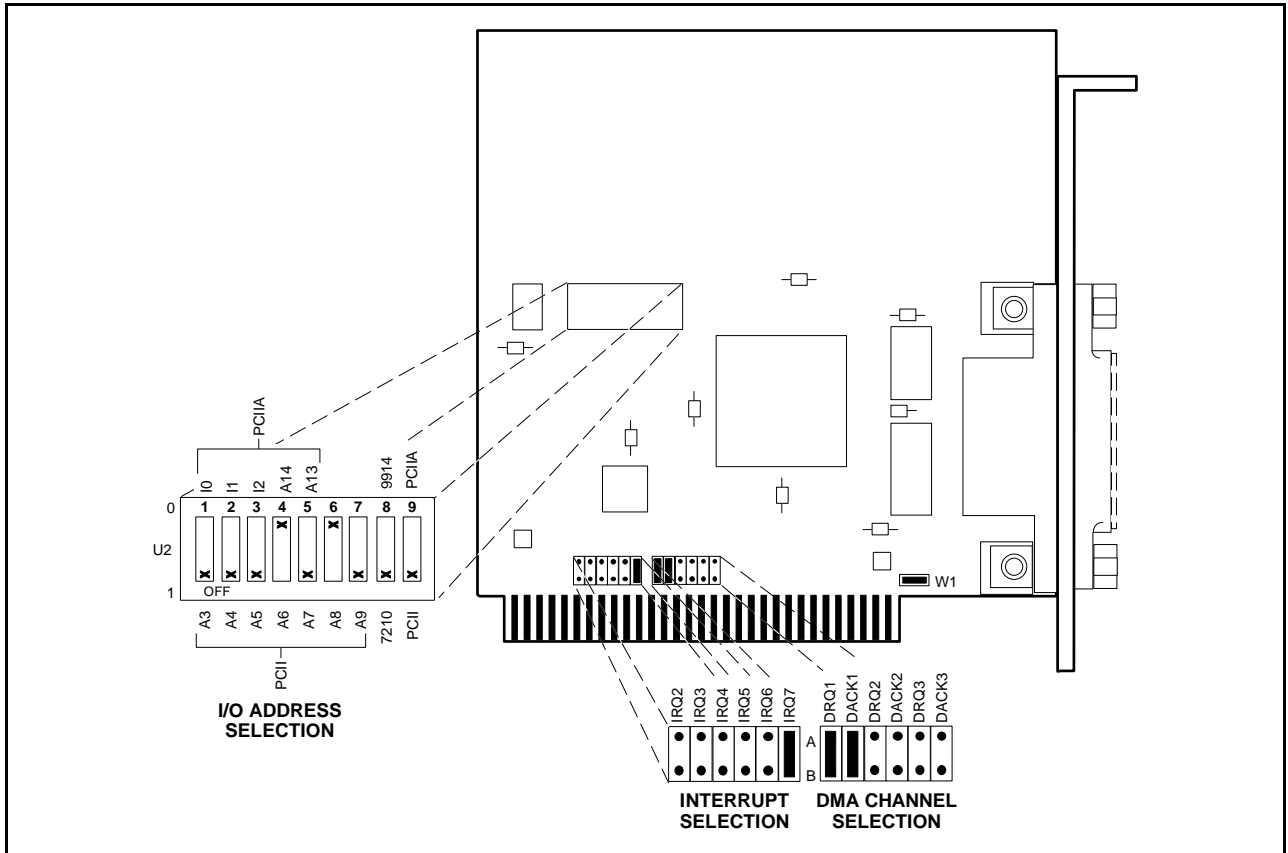

Figure C-1. GPIB-PCII/IIA Hardware Configuration
1. Before installation, set the switches and jumpers on the GPIB-PCII/IIA card as shown in the Figure C-1.